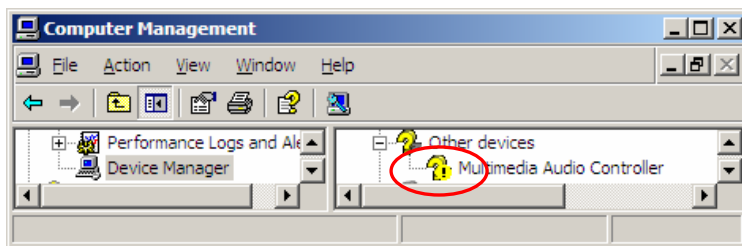

Figure 5. Exclamation mark in Device Manager
- Check Device Manager for USB conflicts or erroneously installed USB drivers: If any drivers under “Universal Serial Bus” controllers or “Cebal Controlled Devices” are marked with an exclamation mark (see Figure 5), right click these drivers and choose uninstall. Necessary drivers will be reinstalled the next time the associated HW is connected.